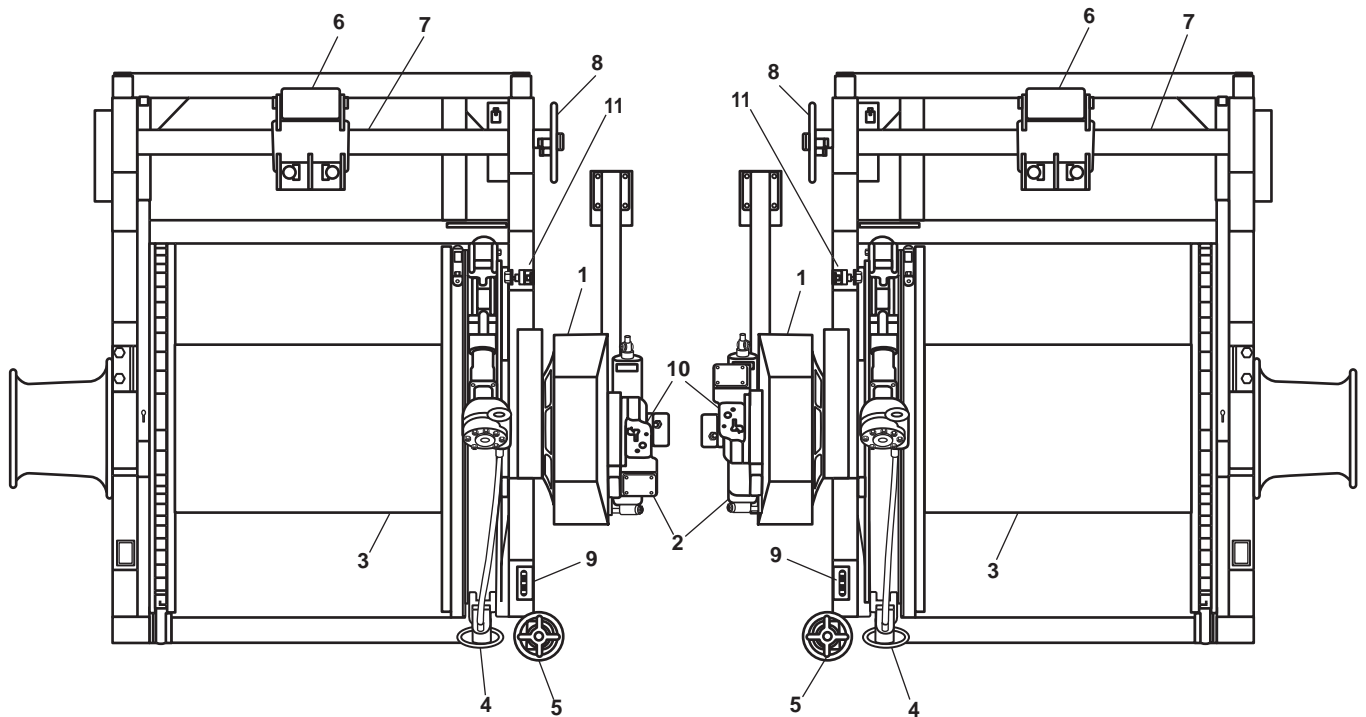
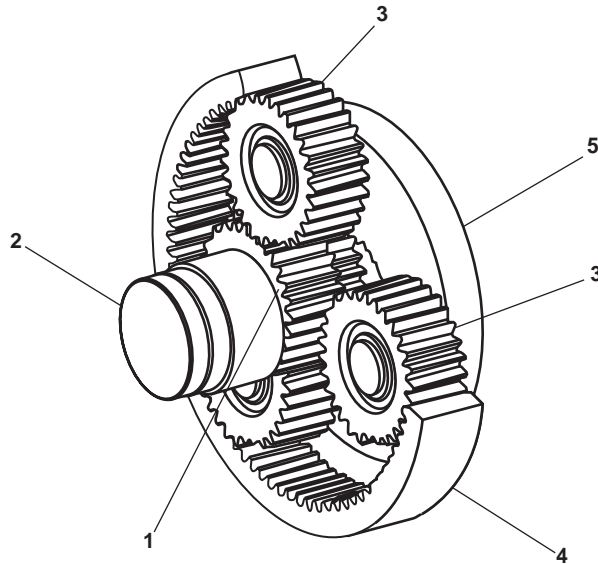
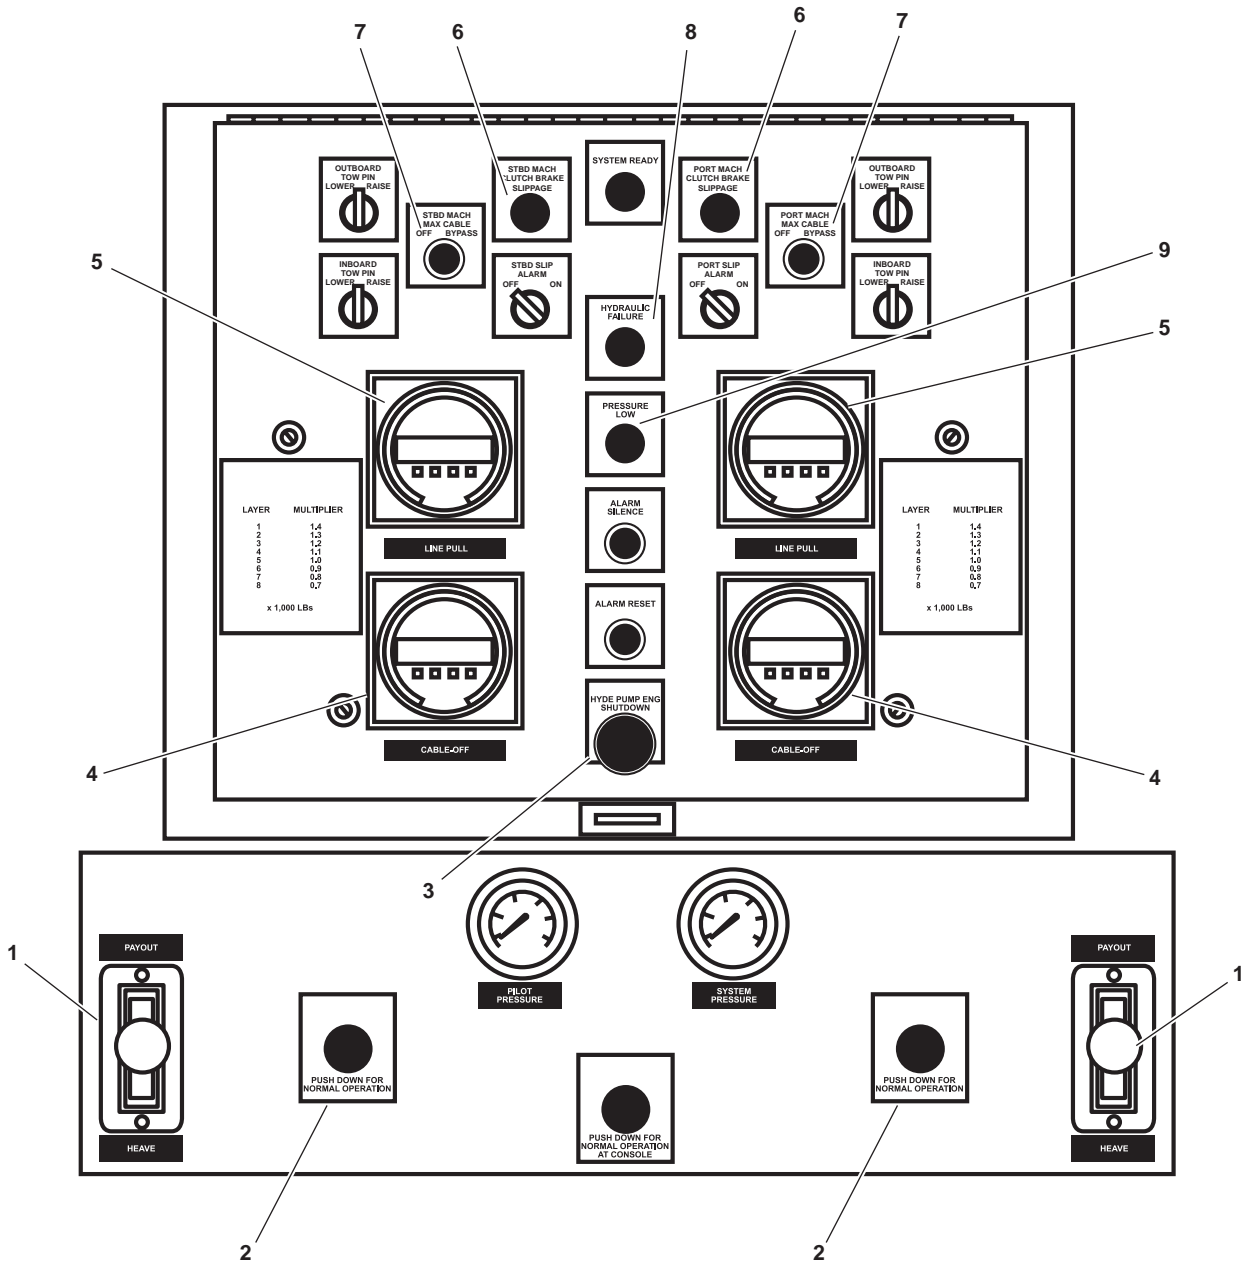

Figure 12. Towing Machine Mechanical Operation
Figure 13. Planetary Reduction Gear Operation
Figure 14. Towing Machine Control Panel (Operator), 01 Level
Under operation under usual conditions, the towing machines are powered by the towing machine hydraulic system. Hydraulic fluid flows to and from the towing machines (figure 5, sheet 1, item 14; figure 5, sheet 2, item 15) by the supply (figure 5, sheet 1, item 19) and return (figure 5, sheet 2, item 20) lines. Once at the towing machines, the hydraulic flow is controlled by the manually operated local controls, or by solenoid operated remote control valve. Hydraulic power operates the hydraulic motors (figure 12, item 1) and the hydraulic brake cylinders (figure 5, sheets 1 and 2, item 21; figure 12, item 2). All other operations are controlled mechanically.
When the manual or remote control valve directs hydraulic flow to the hydraulic motor (figure 12, item 1), pressure is also applied to release the hydraulic brake cylinders (figure 5, sheet 1, item 21; figure 12, item 2). The main shaft then rotates in the desired direction as decided by the direction of hydraulic fluid flow. If the operator desires the drum (figure 12, item 3) to rotate when the main shaft rotates, the clutch band brake must be applied. See the paragraph below for an explanation of this brake.
In addition to the hydraulic braking described above, both a clutch band brake and an auxiliary brake assembly are installed. The clutch band brake is operated by the outboard control handle (figure 12, item 4) and the auxiliary (figure 12, item 5) brake is operated by the inboard control handle. The auxiliary brake provides primary braking for the drum (figure 12, item 3). It brakes nothing else. The clutch band brake's primary function is to lock the drum to the main shaft. Its secondary function is as a brake for the drum.
In order to lock the drum (figure 12, item 3) to the main shaft, the clutch brake lining acts on the surface of the outer (orbit) gear assembly of a planetary reduction gear. When the sun gear (figure 13, item 1), which is attached to the main shaft (figure 13, item 2) rotates, the planet gears (figure 13, item 3) rotate, too. If the orbit gear (figure 13, item 4) is held stationary, in this case by the clutch band brake, the carrier (figure 13, item 5) will rotate in the same direction as the main shaft, but at a lower speed. In the towing machine, the carrier is attached directly to the drum (figure 12, item 3), so carrier rotation equals drum rotation. If the main shaft is held stationary by the hydraulic brake, the clutch band brake acts as a drum brake, because the carrier cannot rotate against a stationary main shaft unless the orbit gear is also permitted to rotate. Thus, braking of the orbit gear results in braking of the drum.
During certain operating modes, for example use of the gypsy heads, the drum (figure 12, item 3) must remain stationary while the main shaft rotates. The auxiliary brake (figure 12, item 5) secures the brake drum during these operations. This braking action is accomplished by pulling a friction-lined brake band tight against the outer diameter of the drum.
A level wind assembly (figure 12, item 6) is provided on each towing machine. The level wind assembly is driven by a worm gear shaft (figure 12, item 7) that rotates in response to drum (figure 12, item 3) rotation. This assembly helps to ensure that the wire rope always winds evenly onto the drum. Alignment and adjustment of the level wind assembly is accomplished with the adjusting wheel (figure 12, item 8).
Primary control of the towing machines is from the towing machine control panel (operator) on the 01 level aft. This operating location places the operator safely away from the towing machines and wire ropes during towing operations. The local control stations (figure 12, item 9) are provided only for emergency or maintenance operation.
Towing machine main shaft rotation is controlled by the PAYOUT/HEAVE lever (figure 14, item 1). This lever controls a solenoid-operated valve which, in turn, controls the flow of hydraulic fluid to the hydraulic motor (figure 12, item 1).
Two speed control for the towing machine hydraulic motor (figure 12, item 1) is controlled by the speed control switch (figure 14, item 2). This switch energizes and deenergizes a solenoid-controlled pilot valve that shifts the hydraulic motor between low and high speed.
Remote shutdown of the pump drive engine is controlled by the HYDRAULIC PUMP ENGINE SHUTDOWN switch (figure 14, item 3). When CLOSED, this switch enables pump drive engine operation. When OPEN, the pump drive engine and central hydraulic power unit are both shut down.
Each towing machine is provided with a CABLE OFF indicator (figure 14, item 4) that also stops the central hydraulic motors. This indicator receives input from a worm gear-driven sensor (figure 12, item 10). This sensor measures drum (figure 12, item 3) rotation and converts this rotation into feet of cable payed off. The sensor input is directed through the towing machine control panel mounted on the starboard bulkhead of the main deck vestibule. There the input is analyzed and output to the CABLE OFF indicator.
A LINE PULL meter (figure 14, item 5) is also installed for each towing machine. This meter measures the amount of strain present on the wire rope. This meter receives its input from a torque strain sensor mounted on the towing machine's main shaft. The sensor input is directed through the towing machine control panel mounted on the starboard bulkhead of the main deck vestibule. There the input is analyzed and output to the line tension meter.
It is important for the operator to know if the clutch brake is slipping. Clutch brake slippage means that additional cable is paying off the drum, causing a potential for trouble. To alert the operator to clutch brake slippage, a CLUTCH BRAKE SLIPPAGE alarm (figure 14, item 6) is installed. When excessive slippage occurs, the alarm sounds a warning horn and illuminates a light on the towing machine control panel (operator) on the 01 level. A similar alarm indicator is also installed in the pilothouse. The alarm operates by means of a proximity switch (figure 12, item 11). When a hub member passes close by the proximity switch, the switch closes. When the hub member passes away, the switch opens. The signal from this switch is routed to the towing machine control panel mounted on the starboard bulkhead of the main deck vestibule. There the input is analyzed and when the signal reaches the predetermined limit for excessive slippage, the alarm light is illuminated, and the alarm horn sounds.
Operating with too little cable on the drum can cause loss of the tow cable. To prevent this, a maximum cable OFF shutdown is installed. When the cable OFF indicator system indicates that less than 300 feet (91 meters) of cable remains on the drum, the payout function of the towing machine is disabled and the STBD or PORT MACH MAX CABLE OFF BYPASS pushbutton indicator (figure 14, item 7) illuminates. This function operates by deenergizing the solenoid operated directional control valve that controls the paying out of the tow cable. If it is desired to pay off cable beyond the automatic cutoff point, the operator can press the STBD or PORT MACH MAX CABLE OFF BYPASS pushbutton indicator to bypass the cutoff.
The operator is alerted to the presence of towing machine hydraulic system faults (low hydraulic fluid level, high hydraulic fluid temperature) by an indicator light (figure 14, item 8) and alarm horn. The alarm is indicated at the towing machine control panel (operator) and in the pilothouse. These alarm conditions are activated by Normally Open (NO) switches for hydraulic fluid level and hydraulic fluid temperature. When the hydraulic fluid level falls too low or its temperature rises too high, the appropriate switch closes, and the alarm is activated.
A similar alarm is activated when the system hydraulic fluid pressure falls too low. This alarm also lights a lamp (figure 14, item 9) and sounds the horn when the Normally Open (NO) system hydraulic fluid pressure switch closes.